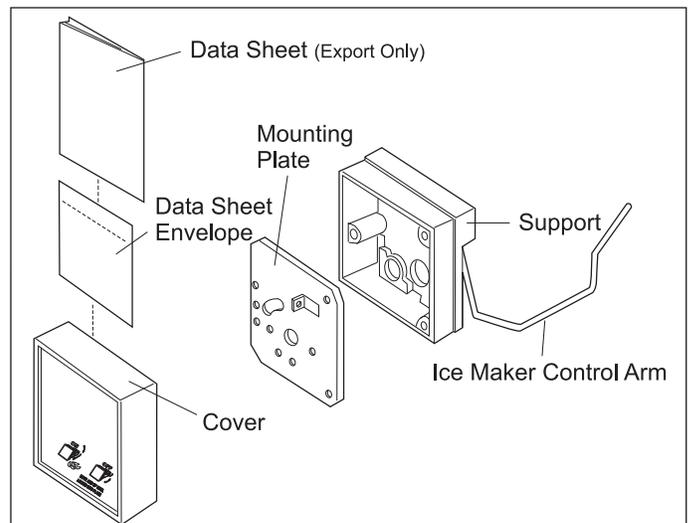

Figure 6-97.
4. Place straight blade of screwdriver in slot at bottom of mold support and pry cover loose. (See Figure 6-97)